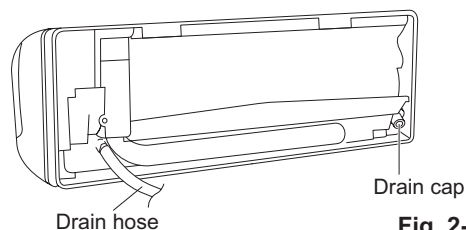

Fig. 2-223
- (a) Locate the drain hose and the drain cap. (Fig. 2-223)
- (b) Remove the screws fastening the drain hose on the right side, and pull out the drain hose to remove it. (Fig. 2-223)